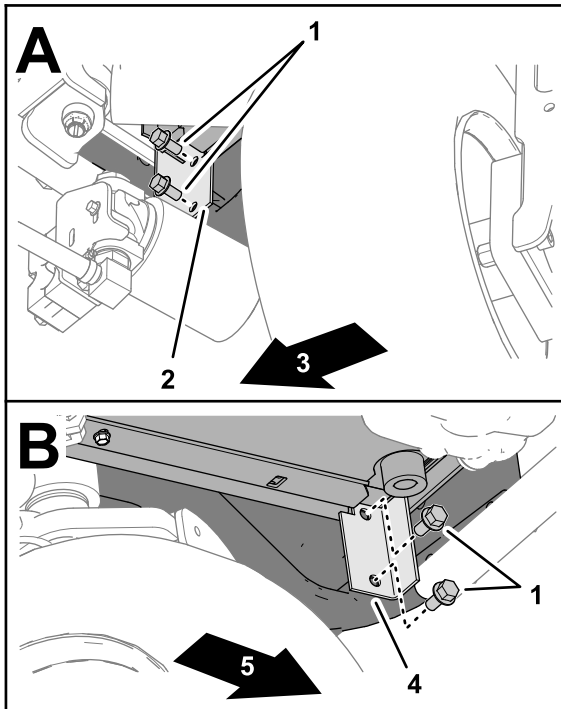

Figure 28
- At the forward, lower corner of the radiator, loosely assemble the radiator bracket to the rear casting of the machine (Figure 28) with the 2 flange capscrews (3/8 x 3/4 inch) that you removed in Removing the Radiator from the Machine (page 10).
- At the other side of the machine, loosely assemble the radiator bracket to the rear casting (Figure 28) with the 2 flange capscrews (3/8 x 3/4 inch).